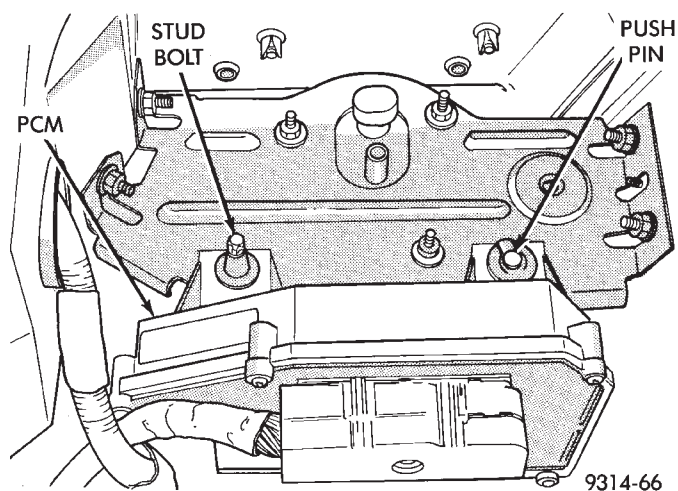

Fig. 58 PCM Location
- (1) Remove air cleaner.
- (2) Remove stud bolt and push pin attaching PCM to body (Fig. 58). The push pin has a center lock (shaft). Pull the center lock up to remove the push pin.